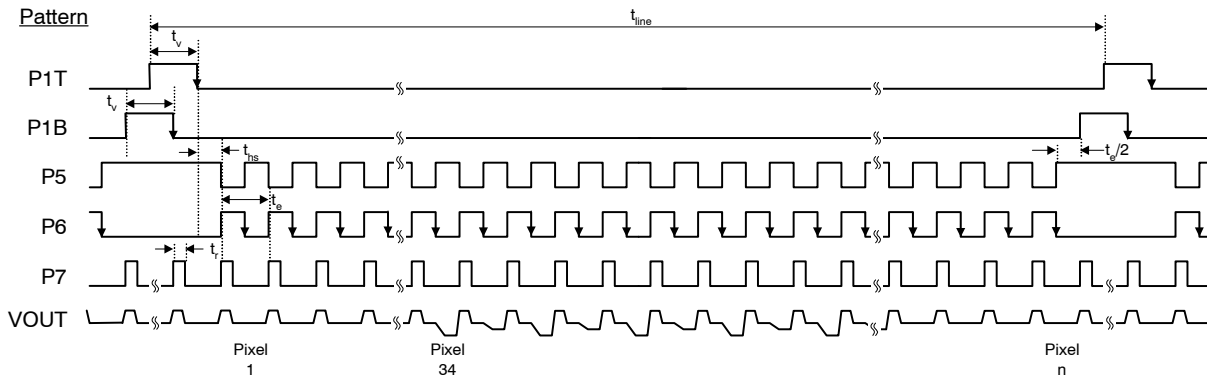

Figure 21. Line and Pixel Timing
3. Refer to timing diagrams as shown in Figures 21, 22, 23, 24 and 25.
The timing sequence for the clocked device pins may be represented as one of seven patterns (P1–P7) as shown in the table below. The patterns are defined in Figure 21 and